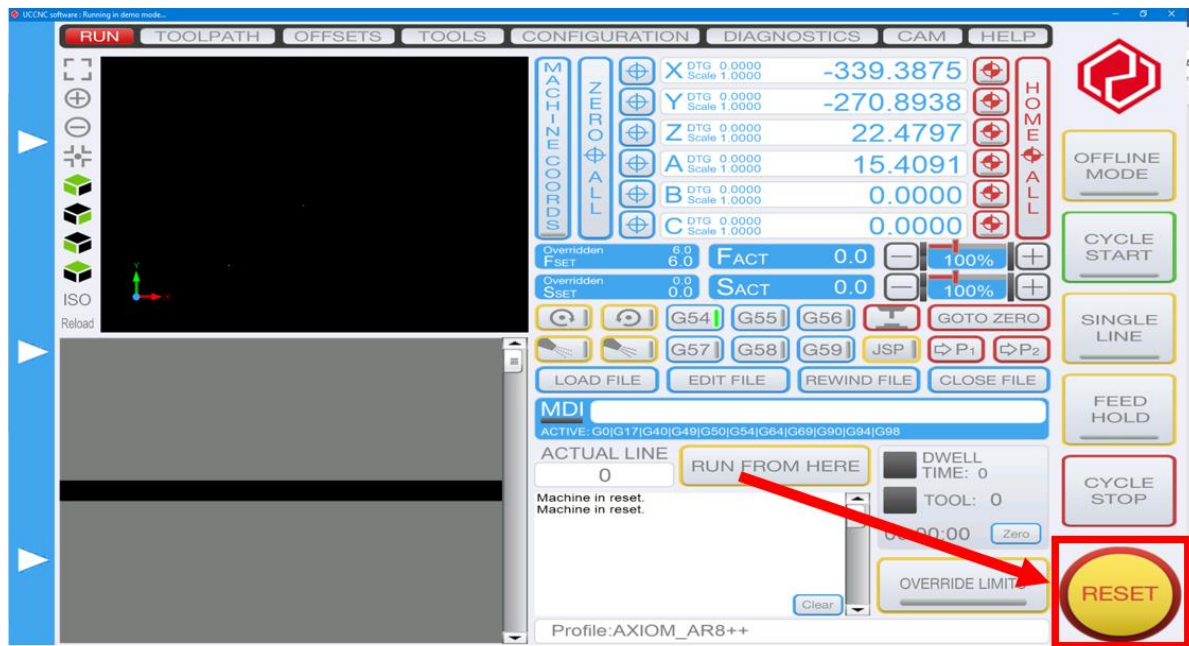

Figure 24: Reset button on UCCNC front panel
- Hit the reset button (it should be flashing yellow and red and is shown in Figure 24). Once clicked it should remain solid red in colour. You should now be able to control the machine with your UCCNC software